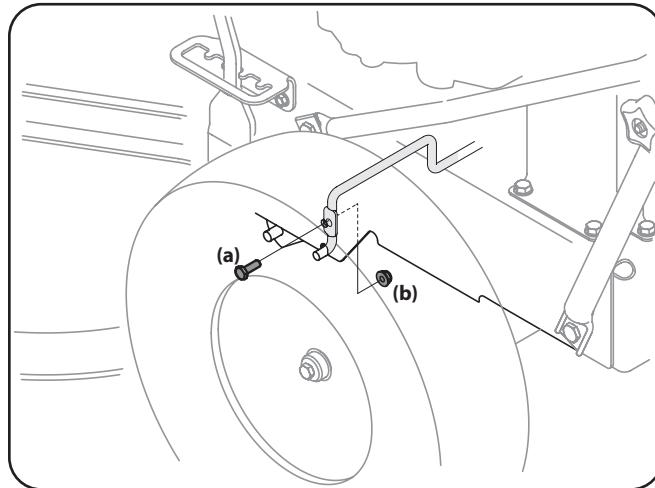

Figure 7-2
5. Remove the screw (a) and flange nut (b) which secures the belt keeper rod to the left side of the mower's frame. See Figure 7-2.
3. Remove the belt keeper as instructed in Step 6 of Cutting Deck Removal on page 20. See Figure 7-2.